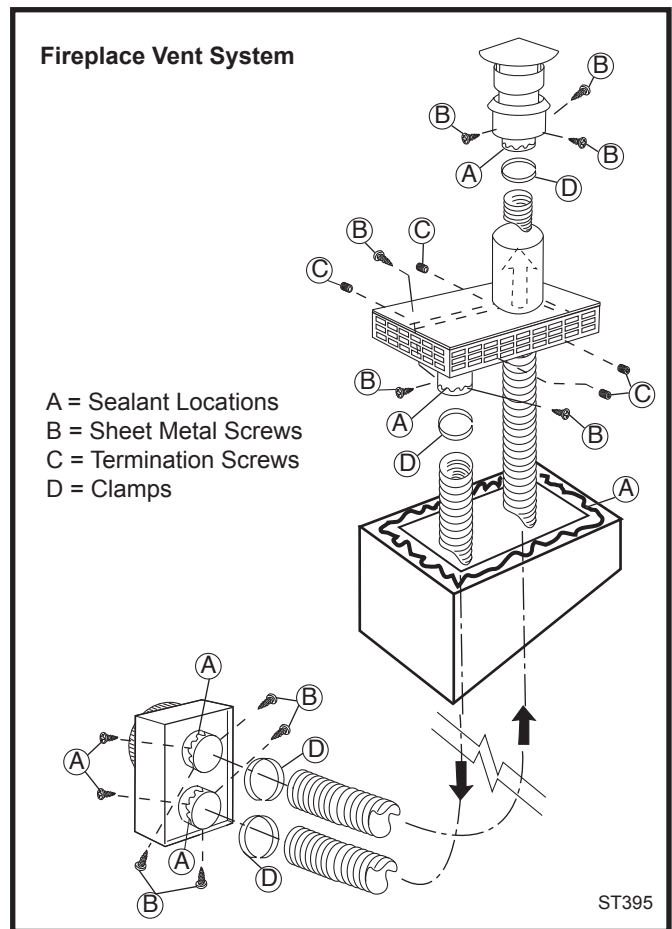

Fig. 35 Fireplace vent system installation.
NOTE: The collar extending down from the Termination base is the air intake collar. Use the flex vent liner, marked with a **blue line**, to connect between this collar and the lower flue collar on the Transition Connector. Also make sure the other flex vent liner is attached to the upper Transition Connector collar and the Rain Cap. (Fig. 35)
6. Apply high-temperature sealant to the top of the chimney. Feed the two liners down through the chimney flue and damper opening. Fasten the termination assembly to the chimney with the four set screws (C) provided.
8. Attach the flex liners to the Transition Connector, using high-temperature sealant and clamps as shown in Figure 35. Prop the connector in rough position until the heater is in place in front of it.